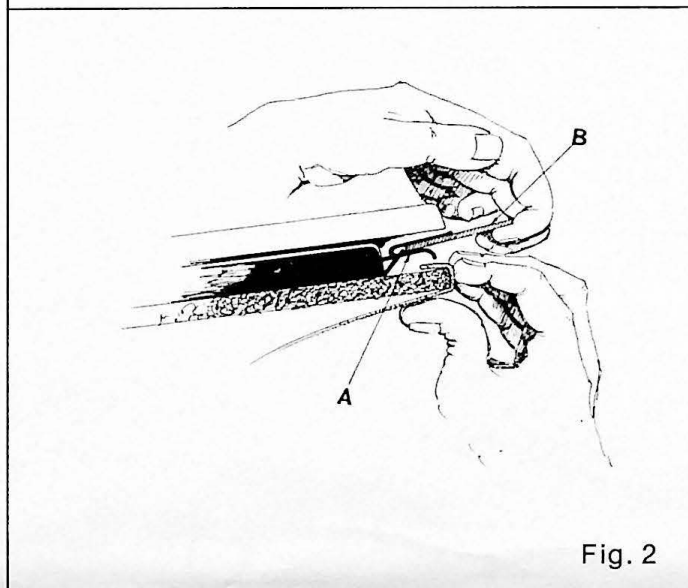

Fig. 2
1. Raise sandpaper retainer (A) with lever (B). See Figure 2.